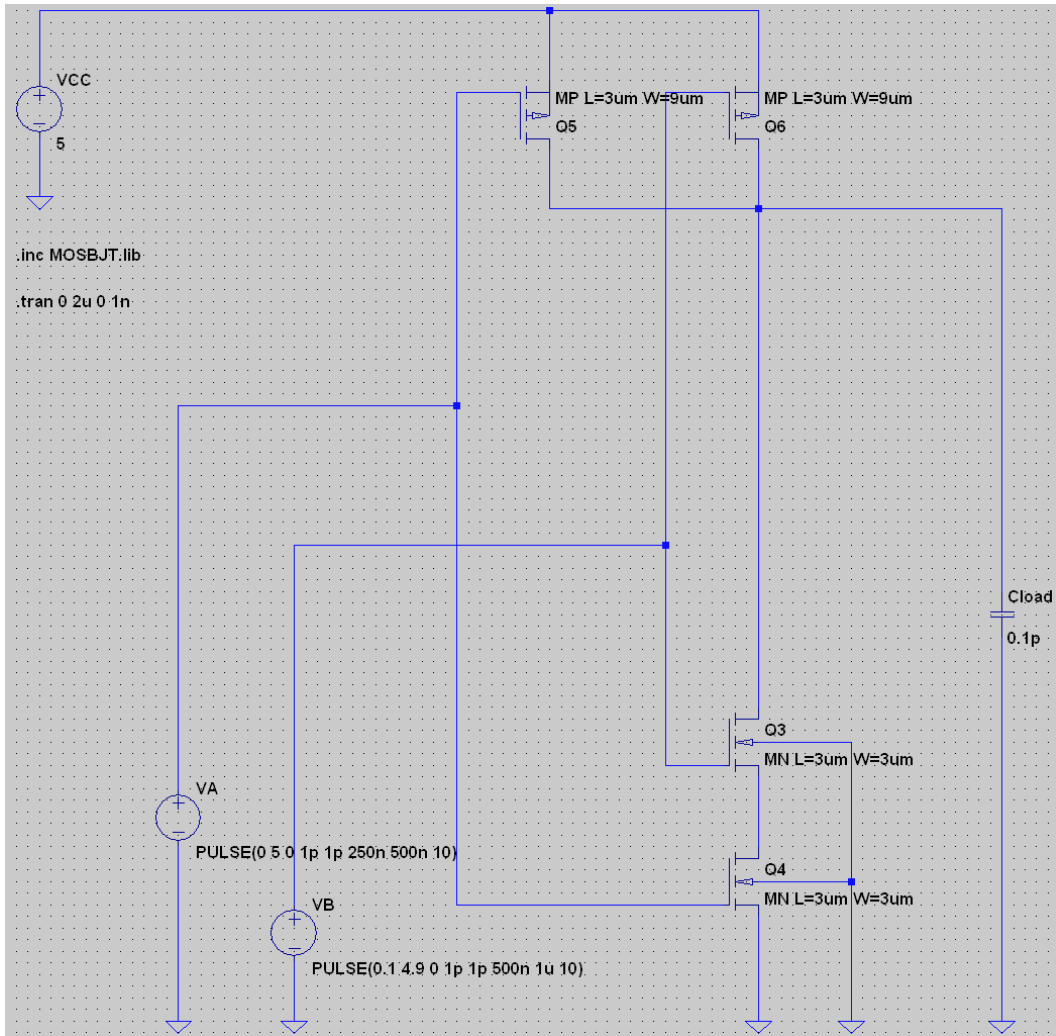
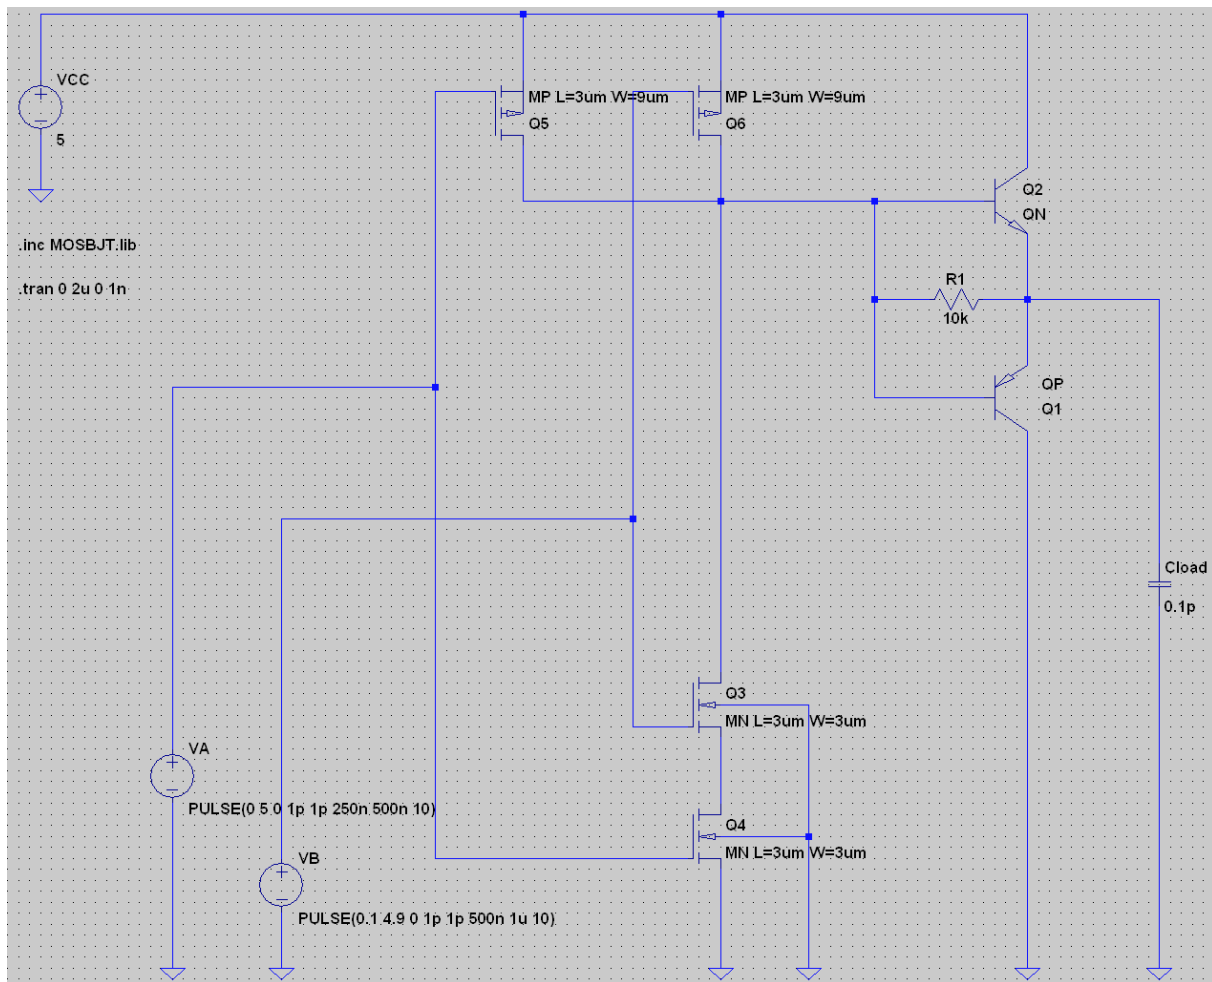
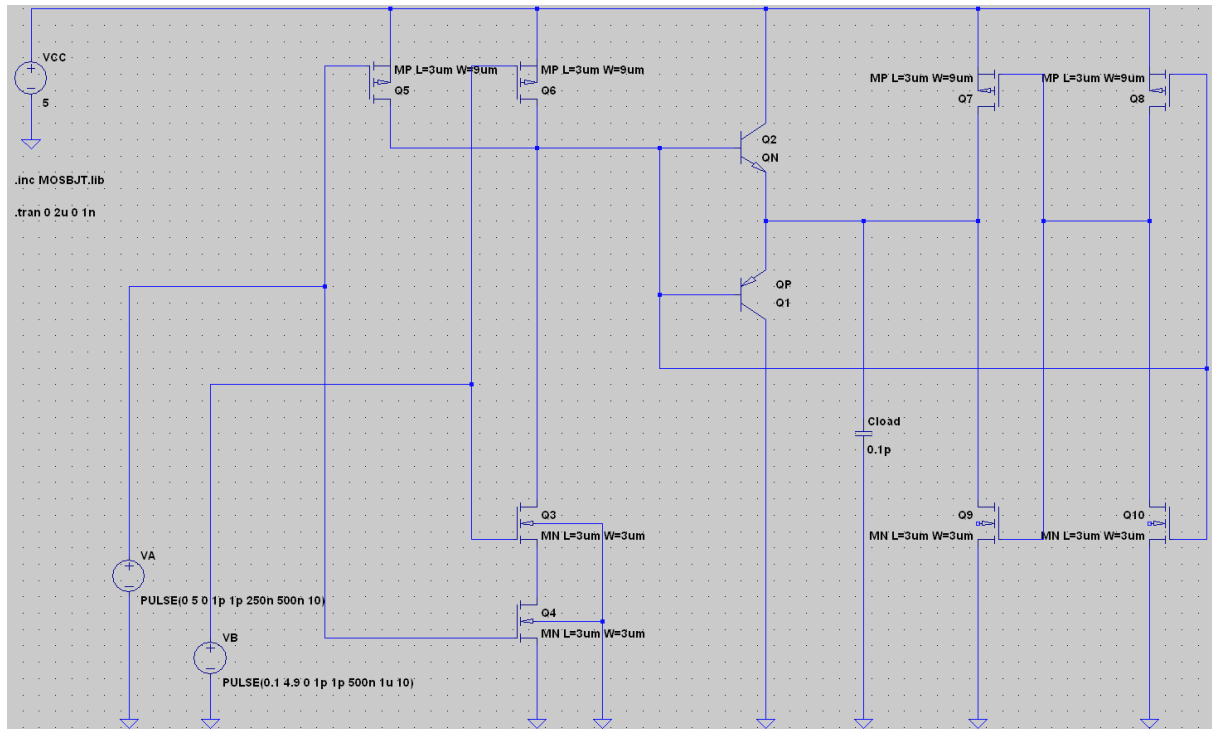

Figure 8: CMOS logic function (Schematic BiCMOS-0).
Figure 9: BiCMOS logic gate with push-pull output stage (Schematic BiCMOS-1).
Figure 10: BiCMOS logic gate with push-pull output stage and auxiliary inverters (Schematic BiCMOS-2).
A schematic of the CMOS logic function to be implemented in the various BiCMOS logic gates of interest is shown in Figure 8. The first objective is to capture this schematic, determine the CMOS logic function by simulation, and to understand the ability of CMOS logic gates to drive capacitive loads.
Make sure you save this file in the same location as your schematic **BiCMOS-0** created above. In order to include these models in your schematic, add a **SPICE directive** to your schematic by selecting **Edit > Text**. Select the **SPICE directive** option, and enter **.inc MOSBJT.lib** in the text window provided. Select any location on your schematic to add this directive (and click the mouse button to complete the operation). Using these new models, construct the CMOS logic gate circuit shown in Figure 8. In specifying the model to be used for each MOSFET, ensure that you include the dimensions provided, as these are employed by SPICE in the simulation. In particular, the models for the n-channel and p-channel MOSFETs should be recorded as “**MN L=3um W=3um**” and “**MP L=3um W=9um**” respectively, without the quotes. (Note that these dimensions refer to the gate length and width for each MOSFET, and hence are vital to determining capacitance and resistance of each device.)
Using the CMOS logic function of Figure 8, a BiCMOS gate may be constructed by cascading a BJT push-pull output stage at the output, as shown in Figure 9.
- 5.2.1. With your previous schematic saved, create a copy by selecting **File > Save As** and using the new schematic name **BiCMOS-1**. Modify your schematic by adding the BJT output stage as shown in Figure 9. Confirm that the logic function of this BiCMOS gate is retained from the CMOS logic function of Figure 8.
- 5.2.2. Repeat Task 5.1.3 above and compare the performance of the logic gates of Figures 8 and 9 based on their ability to drive capacitive loads. Explain any performance improvement observed, and what tradeoffs (if any) have been made in establishing this improvement.
- 5.2.3. What is the purpose of resistor R1 in the BiCMOS logic gate of Figure 9? Justify your answer by observing the effect of varying its value. (HINT: try observing the steady state **HIGH** and **LOW** output voltages with and without resistor R1.)
Based on the schematic of Figure 9, a revised BiCMOS logic gate design that does not employ resistor R1 is illustrated in Figure 10.
- 5.3.1 Again with your previous schematic saved, create a copy by selecting File > Save As and using the new schematic name BiCMOS-2. Modify your schematic by modifying the output stage as shown in Figure 10. Plot the input and output voltages for the inputs specified in the schematic. Confirm that the logic function this BiCMOS gate is retained from the original CMOS logic function of Figure 8.
- 5.3.2 Compare the steady state HIGH and LOW output voltages generated by the BiCMOS logic gates of Figures 8, 9 and 10. Determine the purpose of the auxiliary CMOS inverters implemented by Q7 – Q10 in Figure 10.
- 5.3.3 Determine the instantaneous power delivered by the supply rails in this circuit. How does the power dissipation of this BiCMOS logic gate compare with the CMOS logic function of Figure 8?